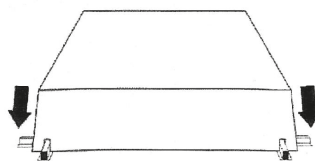
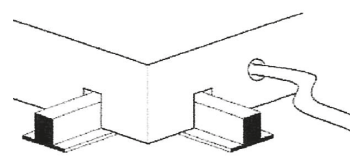

Fig. 3
Fig. 4
- Ensure the cracks on the edge of the cover fit onto the load-bearing profiles of the false ceiling (Fig. 3) and that the cover rests flatly on the panels adjacent to the square where the lighting fixture will be installed (Fig. 4).
- Pass the light wiring in the holes previously prepared and position the ceiling light (Fig. 4).